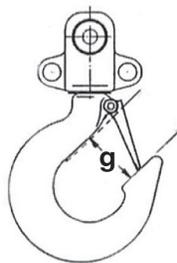

Figure 4
1. Measure hook throat opening from metal to metal of the hook as shown by dimension g in Figure 4. DO NOT measure from latch to metal. Hook must be replaced when throat opening measurement has increased 5% over the over the original throat opening dimension of a new hook, as follows: